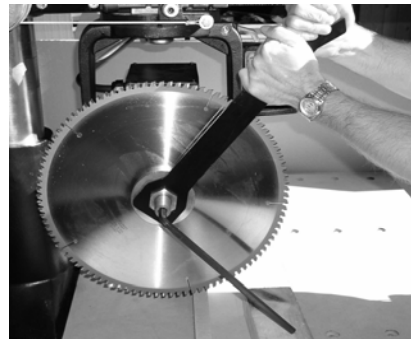

FIGURE 2
1. Place the hex box wrench over the arbor nut and place the long allen wrench in the arbor shaft end hole. Place a wood striking block under the allen wrench to avoid marring the tabletop. Push down on the hex wrench to loosen nut (left hand threaded). (See figure 2)